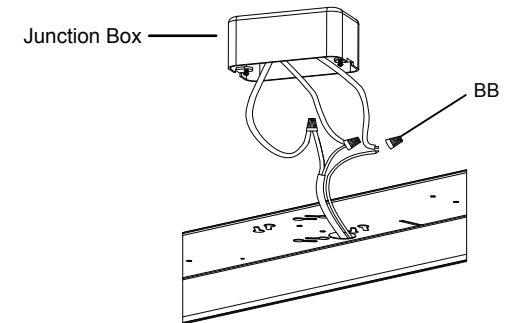

Figure 6
- Connect the AC wires to the corresponding wires (BLACK to BLACK, WHITE to WHITE and GROUND to GROUND) in the junction box and secure using wire nuts (Part BB). (Figure 6)